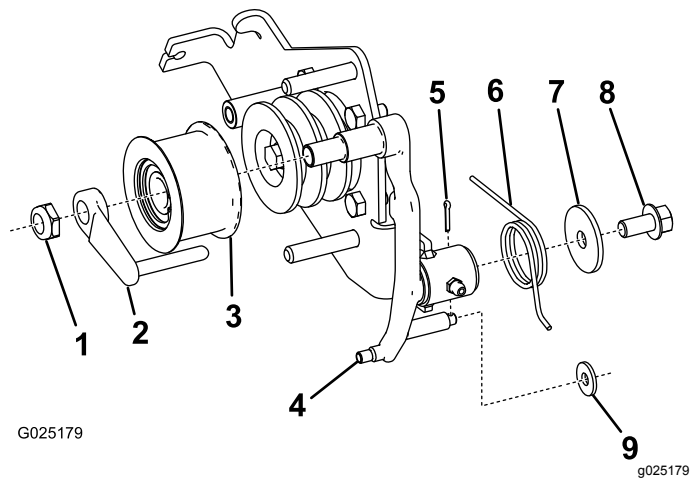

Figure 2
4. Install the new clutch lever to the new clutch bracket using the torque spring, washer, and bolt from the old clutch lever and bracket (Figure 2).